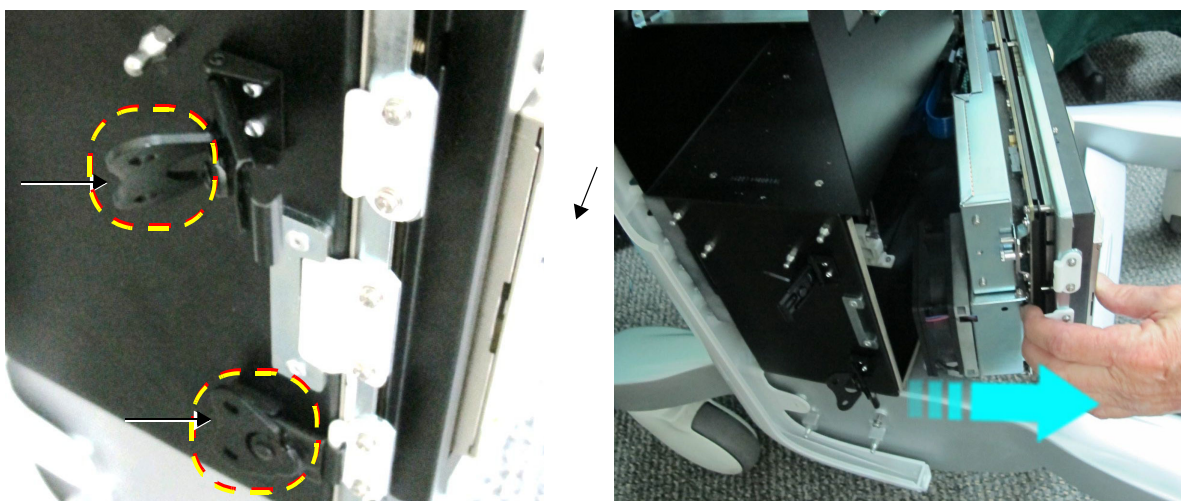

Figure 8-134 Unfastening the Latches and Opening the Cage Door
- 2) Open the two fastening latches on the left side of the Front End door assembly and carefully open the cage door. (Figure 8-134).
- 8.) Close the two fastening latches on the left side of the Front End door assembly (Figure 8-134).